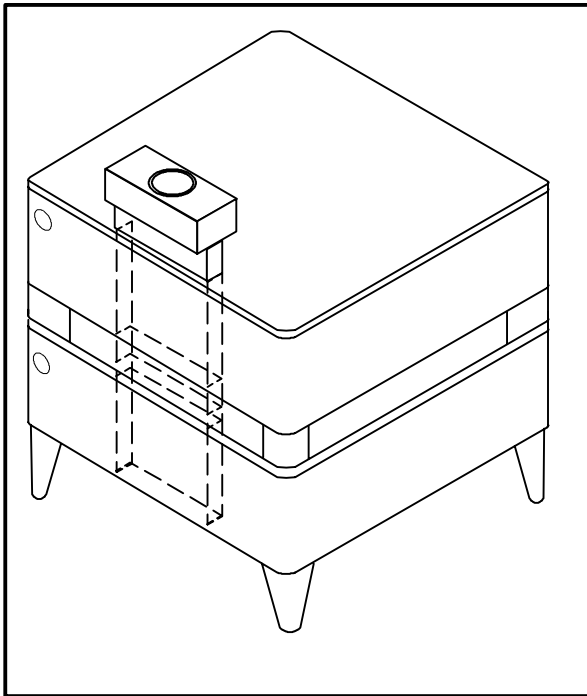

Figure 2
6. Remove tape and slide flue connector into position over the collar of the bottom section. See Figure 2.